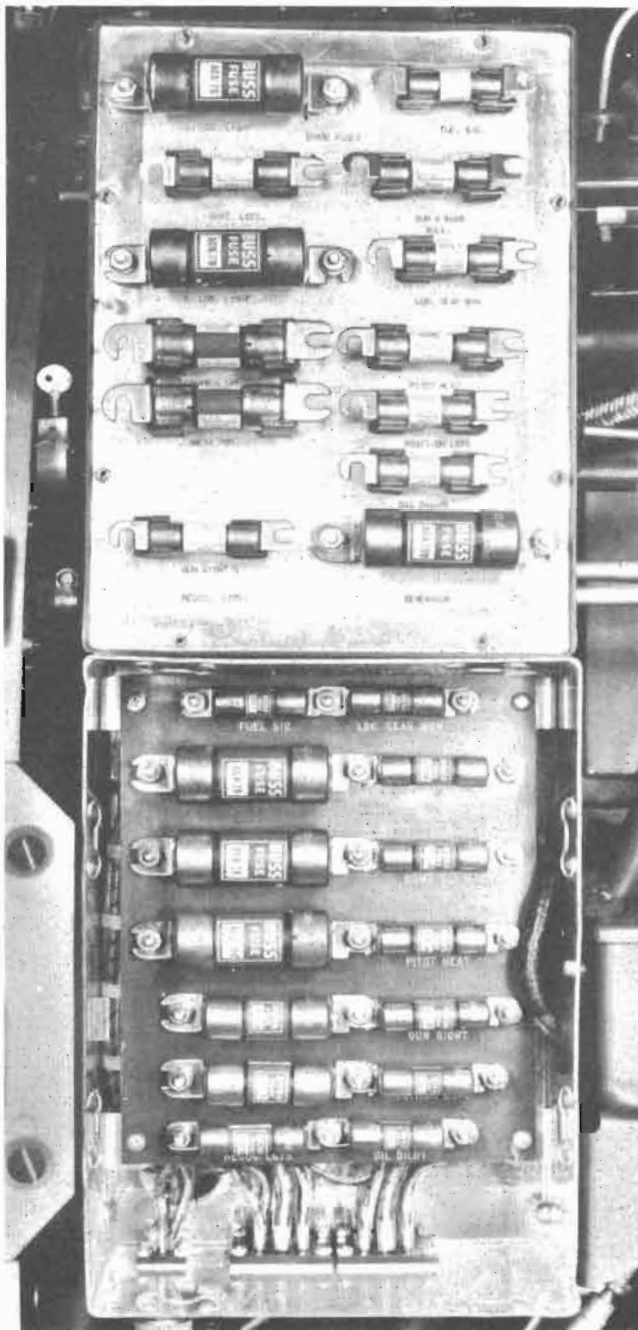

Figure 260 — Fuse Box Installed
main sources of energy: a storage battery and an engine-driven generator, both connected to a common distribution system. The common system is energized by 12-volt direct current, but some equipment (fluorescent lights and compass lights) requiring alternating current are supplied by a dc to ac inverter. The distribution system is of the single hot-wire type with the metallic structure of the airplane serving as the return, except in some instances where it is necessary to use a two-wire circuit to prevent compass interference or to obtain a more efficient ground. The main power panel on the forward face of the fire wall contains the battery and starter solenoids, and the booster coil. The generator control panel at the forward left side of the front cockpit contains a voltage regulator and a relay cut-out. All circuits (except the bomb release and gun circuits) are fused in the main fuse box (figure 260) at the forward left side of the front cockpit. All electrical equipment is controlled from the control panel in the front cockpit. The bomb release and gun firing circuits are fused in the main control panel in the front cockpit and are controlled by switches on the face of this control panel.
(11) FUSES.—(See figure 260.)